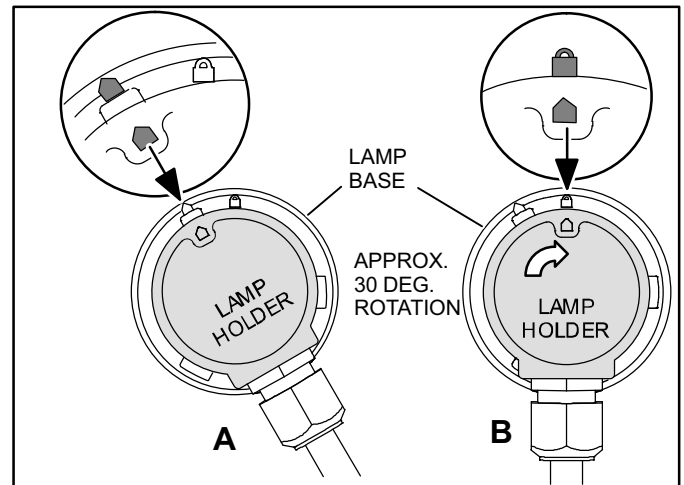

Figure 10. Locking Lamp in Place
5. Align arrow on lamp holder with arrow on lamp base. Insert lamp holder into base (see A in figure 10).
6. Twist to align lamp holder arrow with lock symbol (see B in figure 10).